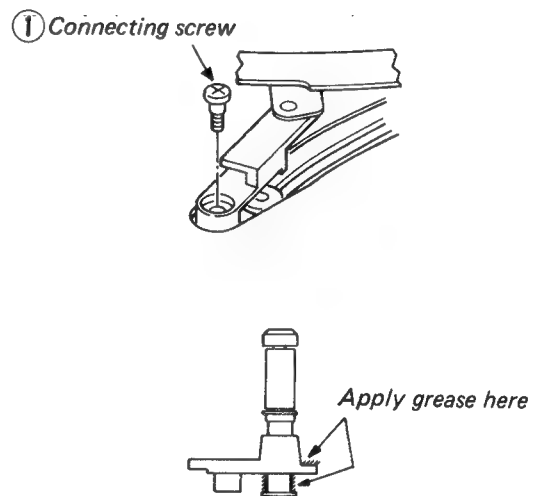

Fig. 1-3-24 S, T slider replacement
- 3) Remove the connecting screw ① shown in Fig. 1-3-24.
- 5) Remove the guide roller and reinstall it in a new slider according to the steps stated in (5) above.
- 7) After completion of the replacement, perform adjustment from tape transport system adjustment. (Refer to 1-4-4 (3))
Note: When the slider is replaced, always apply grease to the slider as shown in Fig. 1-3-24.